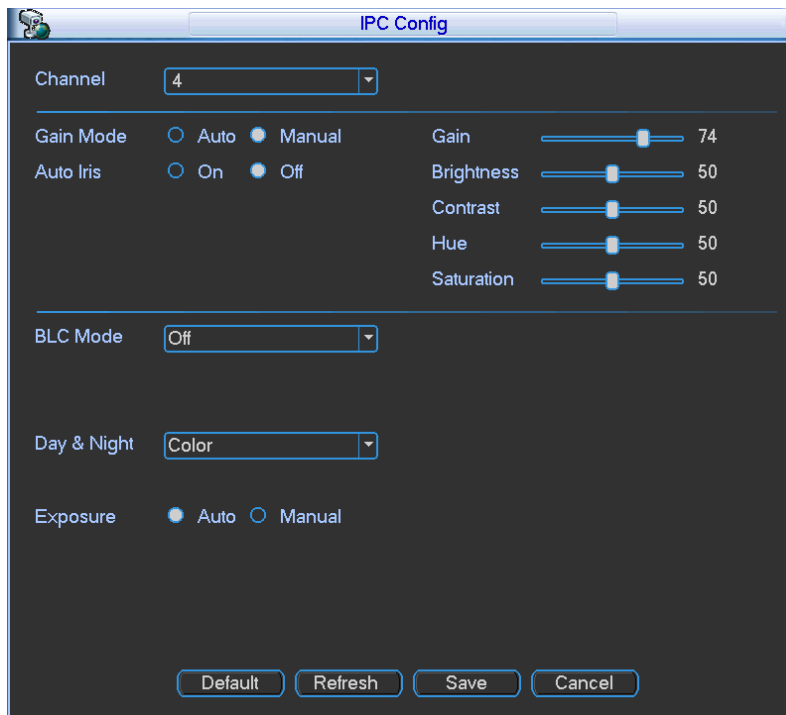

Figure 4-78
- IPC config: Double click the  on the IPC config column, you can go to the IPC setup interface. See Figure 4-78.